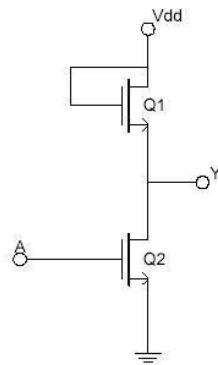

Fig.2 NMOS Inverter with NMOS Load
3. Repeat steps 1 and 2 for each circuit set-up from Fig.2 to Fig. 7.